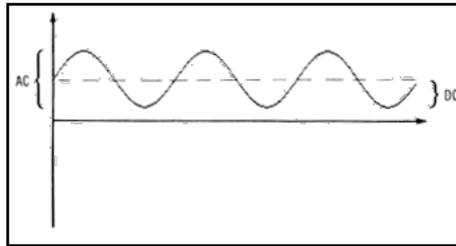

Figure 5
Electrical signals can be basically divided into two groups. Direct (DC) and alternating (AC), measuring correctly DC signals is a quite easy task. Measuring AC signals can, however, sometimes become tricky. Moreover all AC signals may also contain DC offset, which will appear as an average value shift (can be both positive or negative) in the voltage amplitude plot (see figure 5).